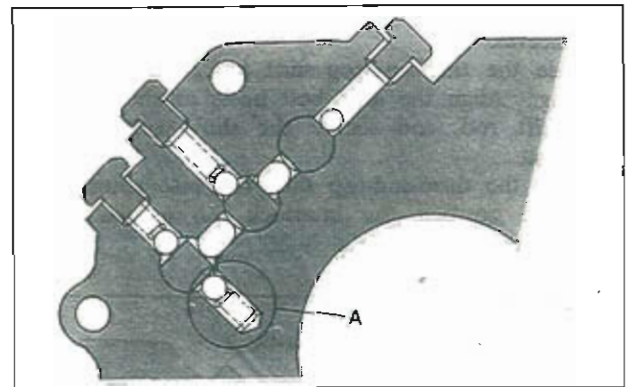

Fig. 7-23 Position of detent ball
1. Position the spring and detent ball in the A of the bearing housing, as shown in Fig. 7-23